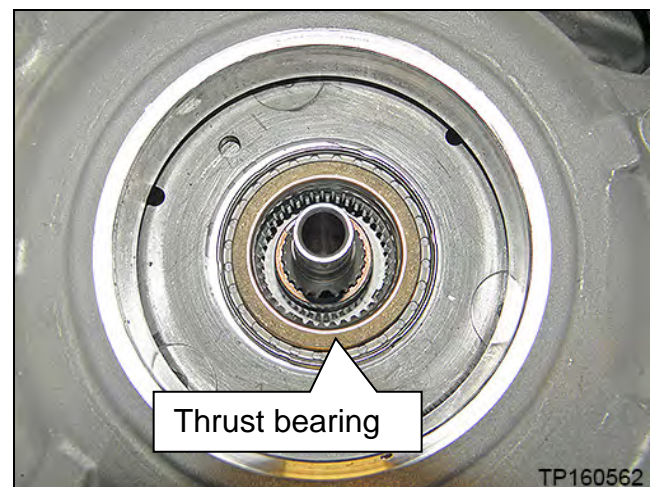

Figure 22F
19. Remove the thrust bearing from the planetary carrier plate (Figure 22F).